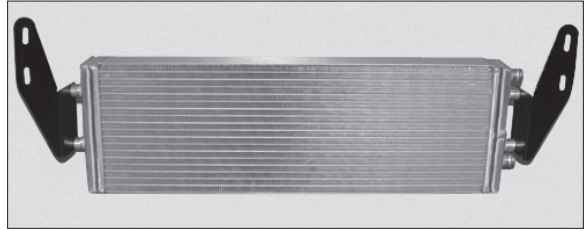

Fig. 3B-a
2. Install the two mounting brackets 8N010-171 and 8N010-173 to the water cooler using the supplied 1/4-20 x 1/2" screws, washers. (See Fig. 3B-a.)